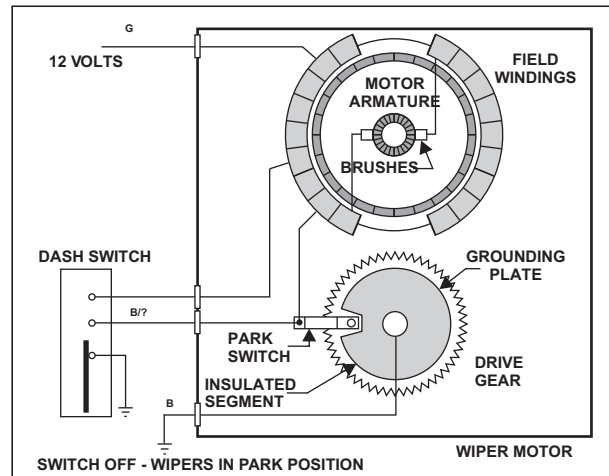

FIGURE 4
**WIPER SWITCH OFF, WIPERS IN PARK POSITION.** Refer to **figure 4**, top right. With the dash switch off, and the park switch open, there is no ground path for the motor. When the park switch opens, the blade motion stops and the wipers are parked.
This switch (grounding contact) is no longer available for the TR250, but it should be fairly easy to make one. See **figures 4 & 5** below for details.